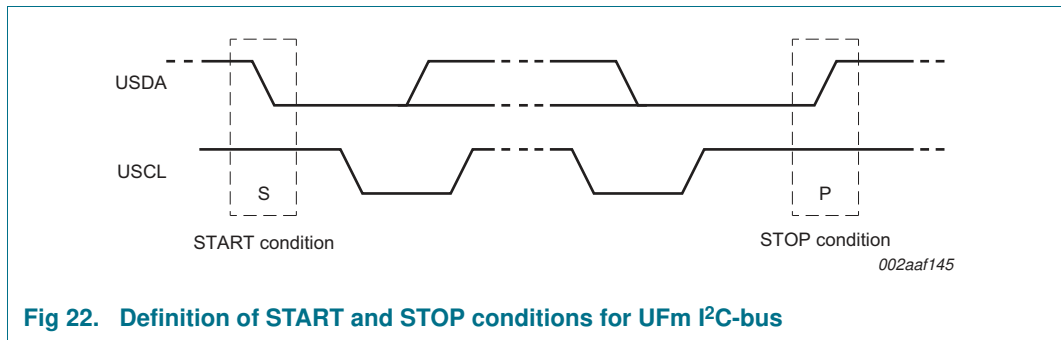

Fig 22. Definition of START and STOP conditions for UFm I2C-bus
Both data and clock lines remain HIGH when the bus is not busy. A HIGH-to-LOW transition of the data line while the clock is HIGH is defined as the START condition (S). A LOW-to-HIGH transition of the data line while the clock is HIGH is defined as the STOP condition (P) (see Figure 22).